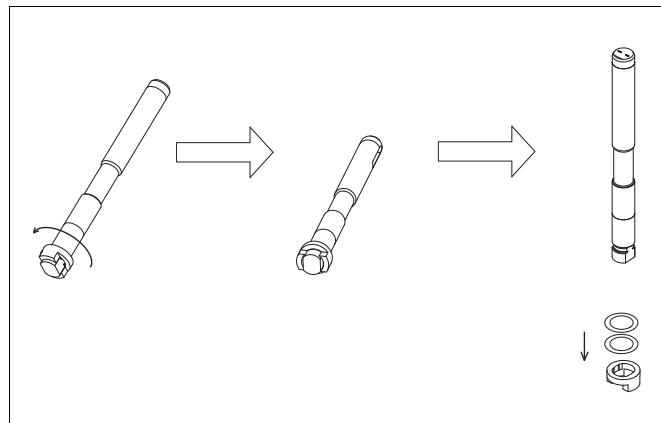

Fig. 19 Detaching the thrust ring in sizes 1" and 1.5"
- ❑ Remove the gland nuts (18), spring sets (150) in live loaded versions, one stud (14), retaining plates (42) and gland (9). Remove the packing (69). Remove the pin (50). Remove the spline driver (2"-8") or thrust ring (1"-1.5") inside the body. For detailed figures to remove the thrust ring see Fig. 19. Remove the shaft (5) by pulling it outwards. Please note that this will detach the thrust bearings (70) from around the shaft.
- ❑ For sizes 10"-12", remove the retaining ring (51) before detaching the stem. Use a pointed metal tool and move the stem back and forth sideways. Remove the stem through the body.
- ❑ Remove the ball seat (7) from the body (1), if necessary with a special tool. Also remove the back seals (63) from the ball seats and the body gasket (65).